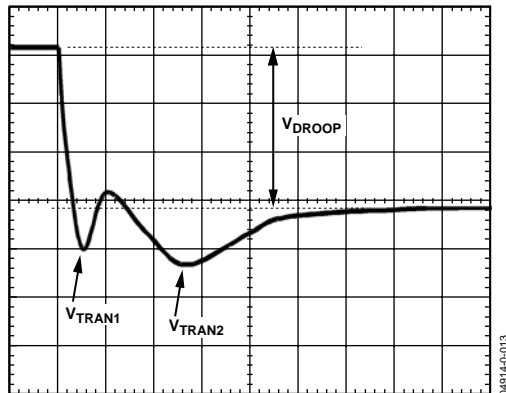
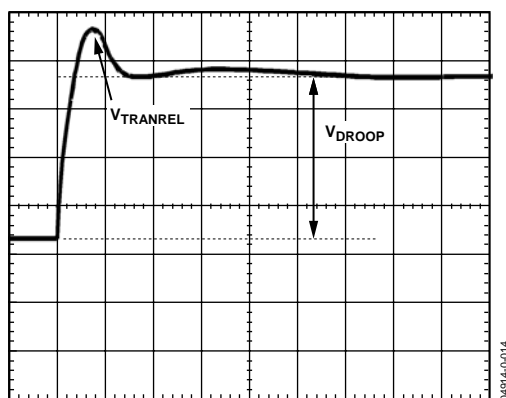

Figure 13. Transient Setting Waveform
Figure 14. Transient Setting Waveform
19. With the dynamic load still set at the maximum step size, expand the scope time scale to see  $2\ \mu\text{s}/\text{div}$  to  $5\ \mu\text{s}/\text{div}$ . The waveform may have two overshoots and one minor undershoot (see Figure 13). Here,  $V_{\text{DROOP}}$  is the final desired value.
24. For load release (see Figure 14), if  $V_{\text{TRANREL}}$  is larger than  $V_{\text{TRAN1}}$  (see Figure 13), there is not enough output capacitance. You need more capacitance or you have to make the inductor values smaller. (If you change inductors, you need to start the design again using the spreadsheet and this tuning procedure.)